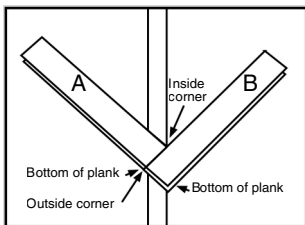

Figure 5
- Position the outside corner of the "A" plank so it lines up with the inside corner mark on the opposite layout line (Fig. 5).